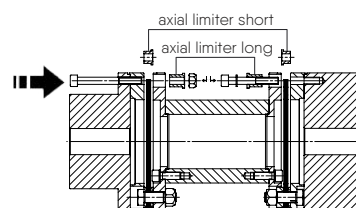

Figure 6
4.1.1. Install hubs (8) and (9) on their respective shafts in their proper position (see fig. 6). Hub faces must be flush with shaft end. In case of doubt, please consult us. Introduce setscrew on key with Loctite and tighten properly. In case of interference fit, refer to ESCO for proper instructions.